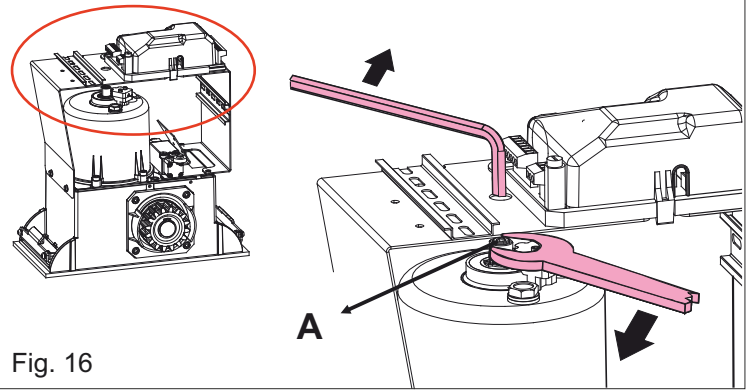

Fig. 16
9.2. To adjust the clutch, act on the grub screw «A» Fig. 16 - as follows: